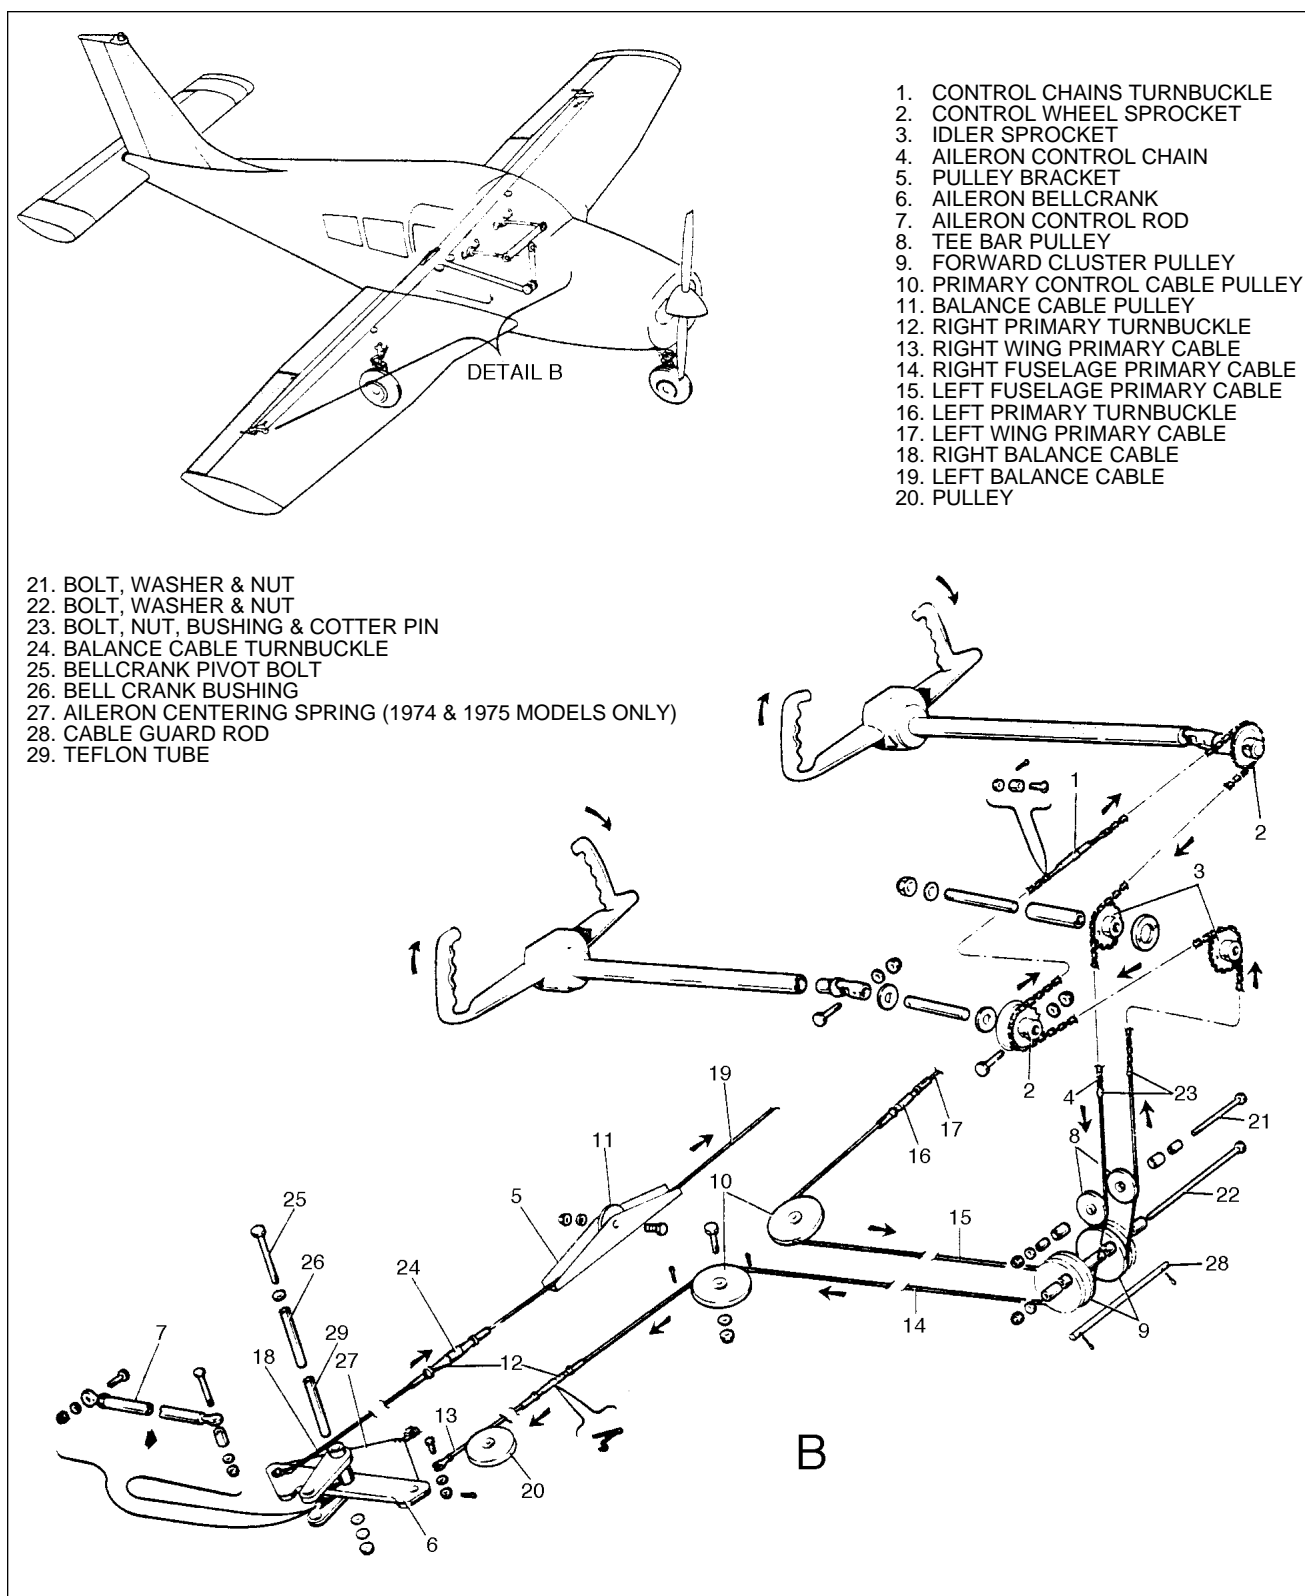
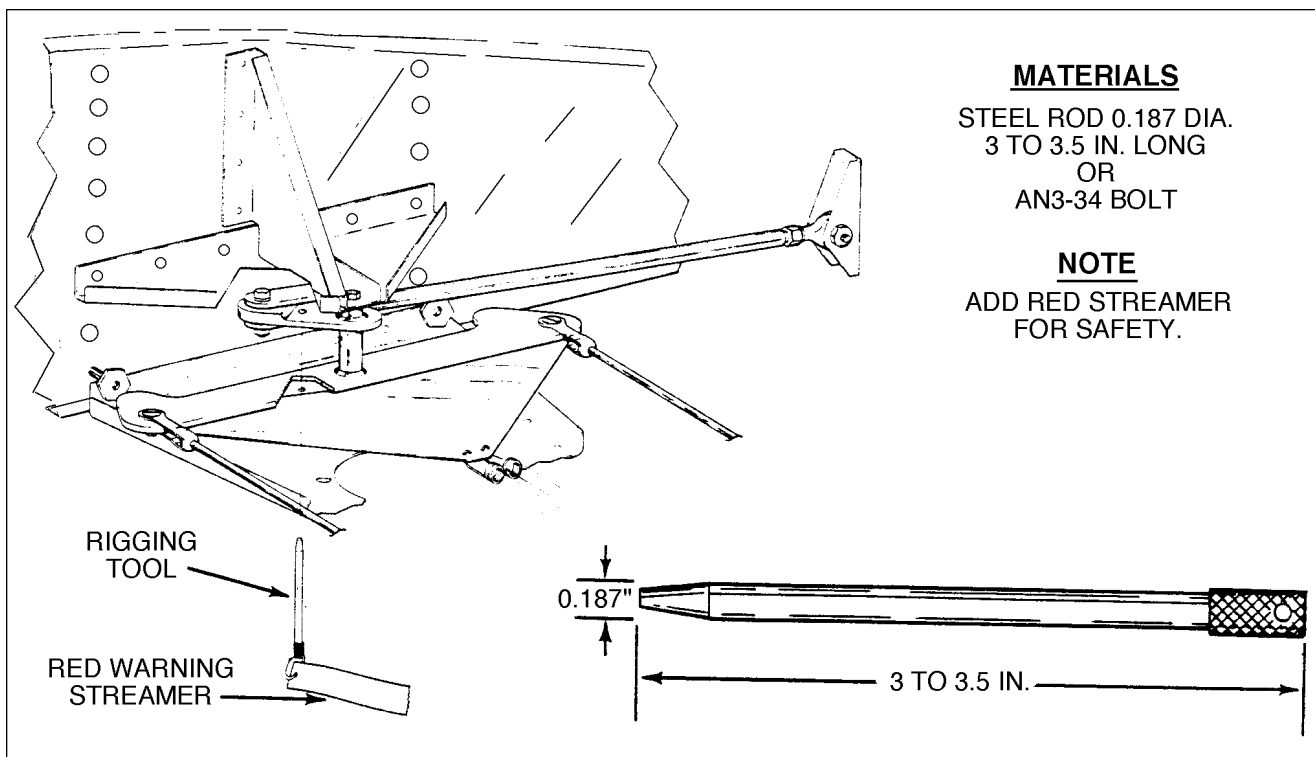
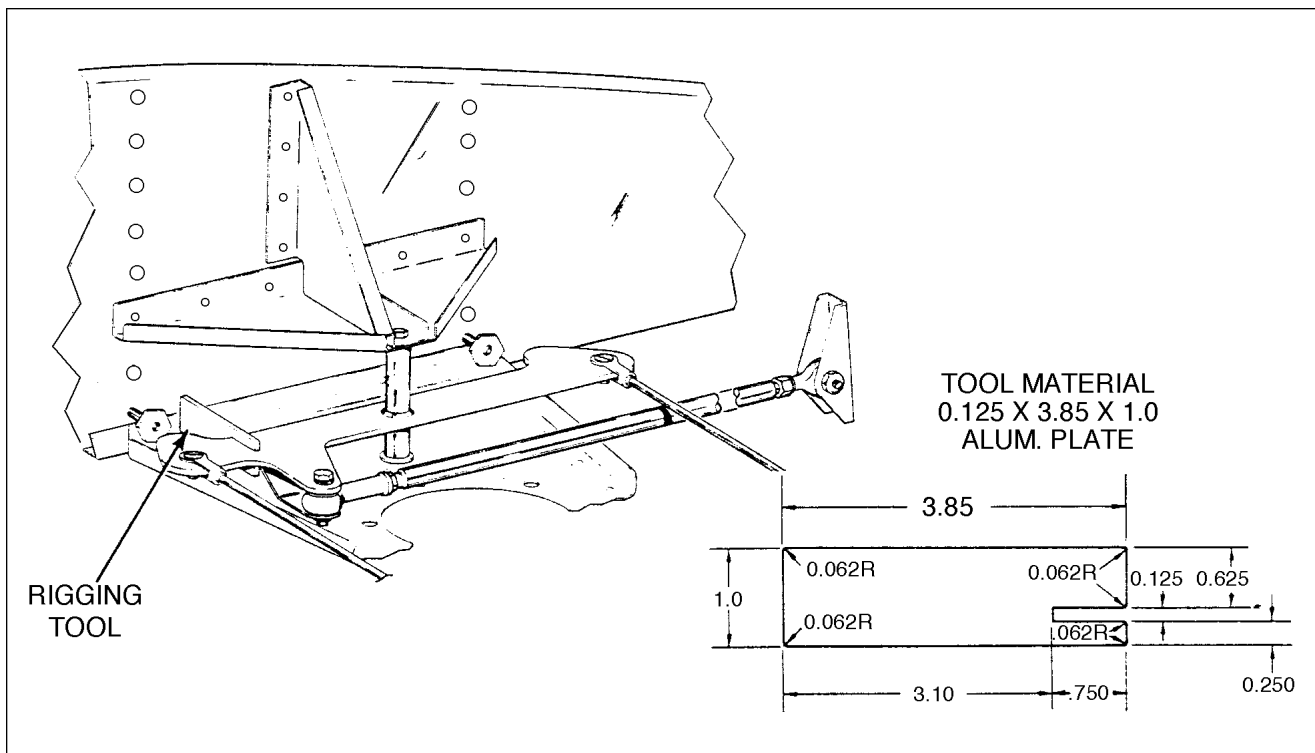

Figure 5-8. Aileron Controls
Figure 5-9. Bellcrank Rigging Tool (1974 and 1975 Models Only)
Figure 5-10. Bellcrank Rigging Tool (1976 and Subsequent Models)
5-11. REMOVAL OF AILERON CONTROL CABLES. (Refer to Figure 5-8.)
5-12. INSTALLATION OF AILERON CONTROL CABLES. (Refer to Figure 5-8.)
2. Connect the cable, along with the aileron centering plate, to the aft end of the aileron bellcrank (6) using a bolt, washer, nut and cotter pin. Allow the cable end to rotate freely on the bellcrank.
3. Connect the balance cable ends at the turnbuckle (24) that is located under the rear seat aft of the main spar.
4. If the left cable was removed, install the cotter pin cable guard at the pulley (10) located within the fuselage, aft of the main spar.
- 51-13. REMOVAL OF AILERON BELLCRANK ASSEMBLY. (Refer to Figure 5-8.)
- b. Remove the access plate to the aileron bellcrank (6) located on the underside of the wing, forward of the center aileron hinge.
- c. Relieve tension from the aileron control cables by loosening the balance cable turnbuckle (24) located in the opening aft of the main spar.
- f. Disconnect the aileron control rod (7) at the aft or forward end, as desired, by removing the cotter pin, nut, washer and bolt.
- g. Remove the nut, pivot bolt (25) and washers that secure the bellcrank. The nut is visible from the underside of the wing.
- 5-14. INSTALLATION OF AILERON BELLCRANK ASSEMBLY. (Refer to Figure 5-8.)
- a. Install the bellcrank pivot bushing (26) with teflon tube (29) in torque tube portion of the bellcrank (6).
- c. Install the bellcrank pivot bolt (25) with the head up. Install a washer and nut on the bolt, and torque nut within 20 to 25 inch-pounds. Check that the bellcrank rotates freely with little up-down play.
- d. Install and adjust control rod (7) and check aileron travel per Table V-II.
- f. Tighten the control cables at the balance cable turnbuckle (24) in the floor opening aft of the main spar. Check cable tension per Table V-II.
- 5-15. RIGGING AND ADJUSTMENT OF AILERON CONTROLS. (Refer to Figure 5-9 or Figure 5-10.)
- 2. On 1974 and 1975 models install a bellcrank rigging pin, as shown in Figure 5-9, through the arm of each bellcrank and the support bracket. (This tool may be fabricated from dimension given in Figure 5-3.)
- 3. On 1976 and subsequent models affix a bellcrank rigging tool, as shown in Figure 5-10, between the forward arm of each bellcrank and the adjacent rib. (This tool may be fabricated from dimensions given in Figure 5-10.) The slotted end of the tool fits on the arm forward of and adjacent to the primary control cable end. The other end of the tool is positioned so that the side of the tool contacts the aft side of the bellcrank stop. The bellcrank must be moved to allow a snug fit of the tool between the bellcrank arm and rib. To do so, it may be necessary to loosen a primary control cable or the balance cable. The neutral position may also be found by locating the position at which the forward and aft cable connection holes are an equal distance from the adjacent outboard wing rib.